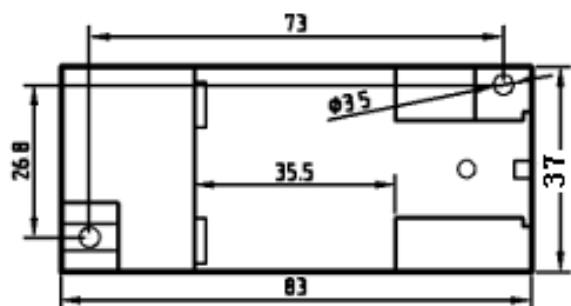

Figure 13 Mounting dimensions
- ①4mm diameter hole in the fixed plate according to the position of the screw hole shown in Fig. 13;
- ② Use the screw Φ3.5 to insert into hole and secure it.